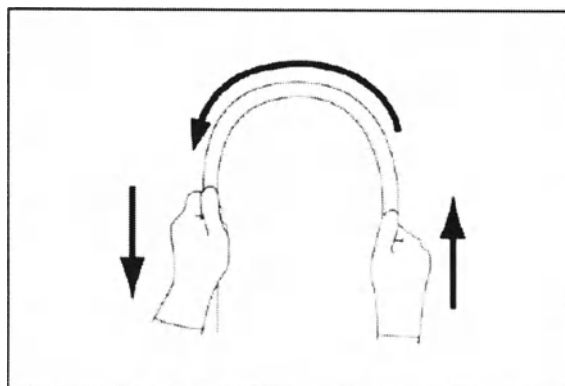

Fig 3.3
6. Using both hands, bend the insertion tube of the endoscope into a semicircle. Then, moving your hands as shown by the arrows, confirm that the entire insertion tube can be smoothly bent to a semicircle. (Fig 3.3)